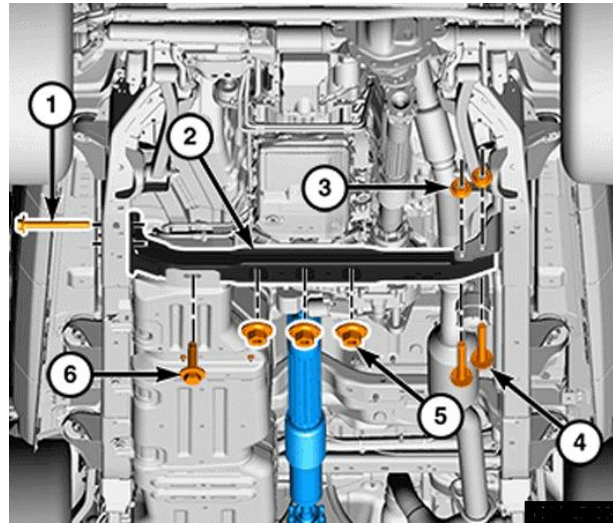

Figure 9 – Transmission Crossmember
18. Remove the nuts (5) attaching the transmission mount to the crossmember (Figure 9).
19. Remove the bolt (6) through the fuel tank skid plate (Figure 9).
20. Remove the frame bolts (1) (Figure 9).
21. Remove the bracket bolts (4) and nuts (3) (Figure 9).
7. Install the transmission crossmember (Figure 9).
8. Install the crossmember bolts (4) and nuts (3) to the bracket on the frame, and tighten to 175 N·m (129 ft. lbs.) (Figure 9).
9. Install the crossmember bolts (1) through the frame and tighten to 70 N·m (52 ft. lbs.) (Figure 9).
10. Install the bolt (6) through the fuel tank skid plate and tighten to 65 N·m (48 ft. lbs.) (Figure 9).
11. Install the nuts (5) attaching the transmission mount to the crossmember and tighten to 175 N·m (129 ft. lbs.) (Figure 9).